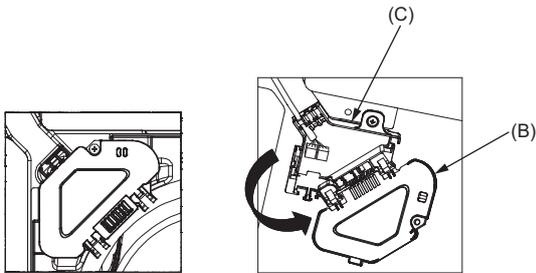

Fig. 5-5
- (3) Remove the one screw securing the connector box cover, and then open the cover. (Fig. 5-5)
- (4) Place the junction wire connector in the connector box.
- (5) Install the wire cover and connector box cover.